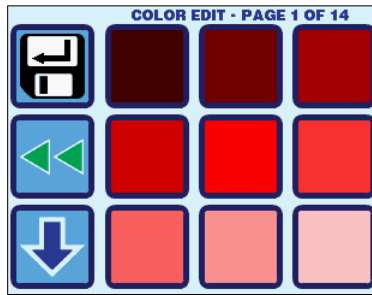

Figure 36 – Color Edit Screen Example
**Display Colors** – The various portions of the display can have their colors changed. The color choice palettes displayed consist of 126 different colors shown across 14 pages. Pages 1-12 show the color choices from a standard color pallet, page 13 shows the grayscale color choices, and page 14 shows the standard display colors used by factory default. Figure 36 below shows an example of a color selection display screen.